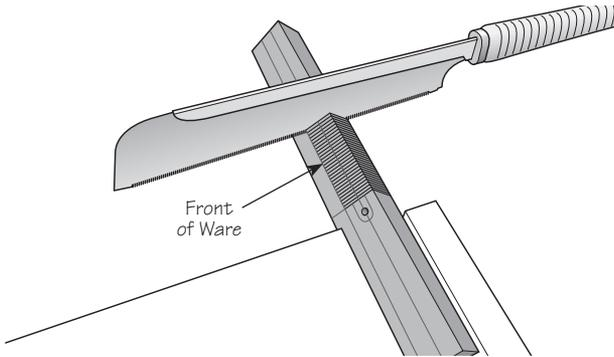
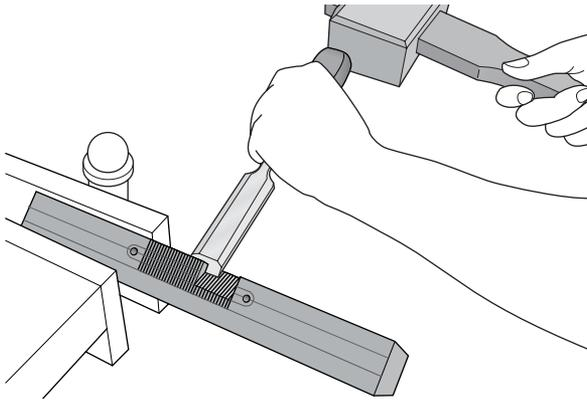

**Figure 7: Cross section showing angle on front edge of sole.**
**Figure 8: Bevel the front edge of the sole.**
7. The spokeshave is rocked forward  $3^\circ$  to  $4^\circ$  in use in order to engage the cutting edge and to accommodate fiber springback. Consequently, the front edge of the sole (bottom) must be angled accordingly (see **Figure 7**). Score a horizontal line  $\frac{1}{32}$ " from the bottom edge of the blank on the front side; then plane down to this line, tilting the plane  $3^\circ$  to  $4^\circ$ . A block plane is ideal for this. Plane only the  $\frac{1}{2}$ " area between the front of the ware and the front edge of the blank (see **Figure 8**).